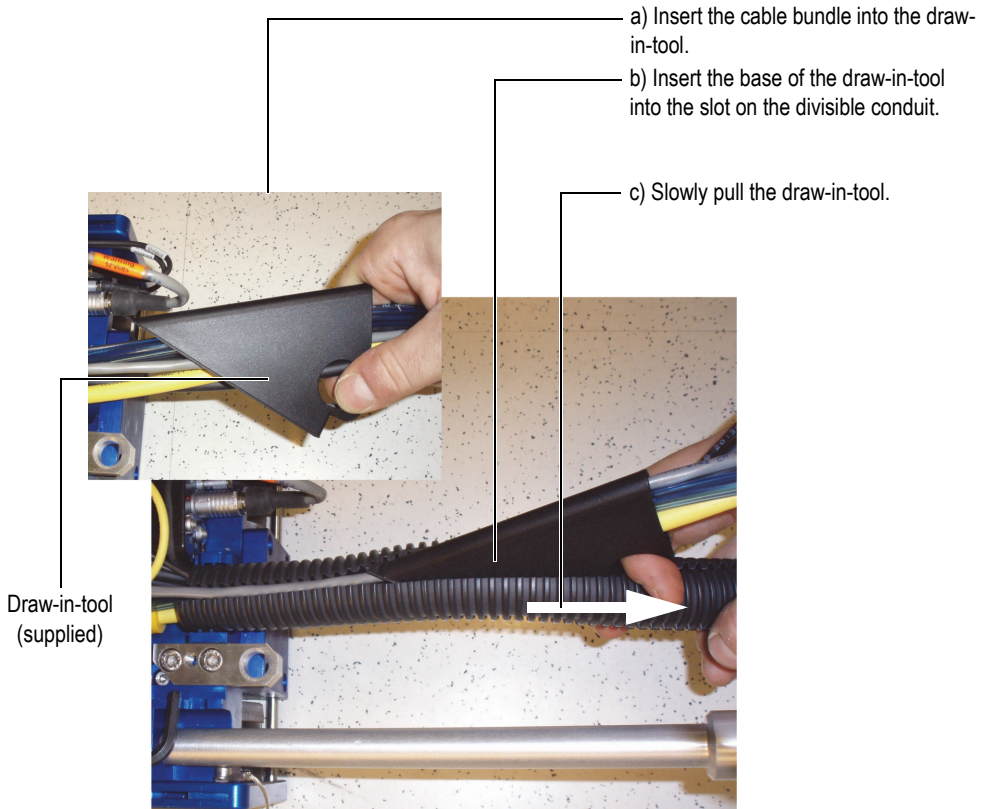

Figure 2-5 Umbilical—draw-in-tool and divisible conduit
6. If required, use the supplied draw-in tool (Evident part number 54EC0282) to insert the cable bundle into the divisible cable conduit (Figure 2-5 on page 38):
- a) Insert the cable bundle into the supplied draw-in tool (see step A in Figure 2-5 on page 38).
- b) Insert the base of the draw-in tool into the slot on the divisible conduit (see step B in Figure 2-5 on page 38).
- c) Slowly pull the draw-in tool to insert the cable bundle into the divisible conduit (see step C in Figure 2-5 on page 38).